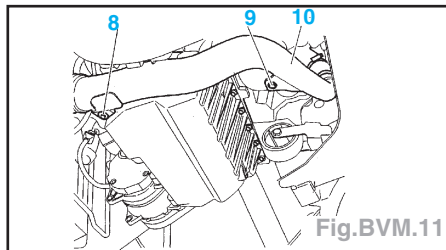
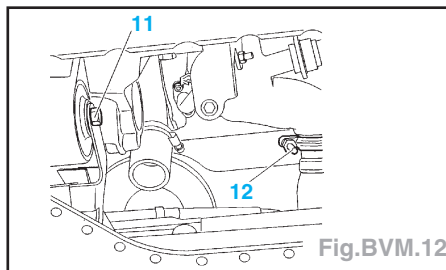

Fig.BVM.11
Fig.BVM.12
- Déposer (Fig.BVM.11) et (Fig.BVM.12) :